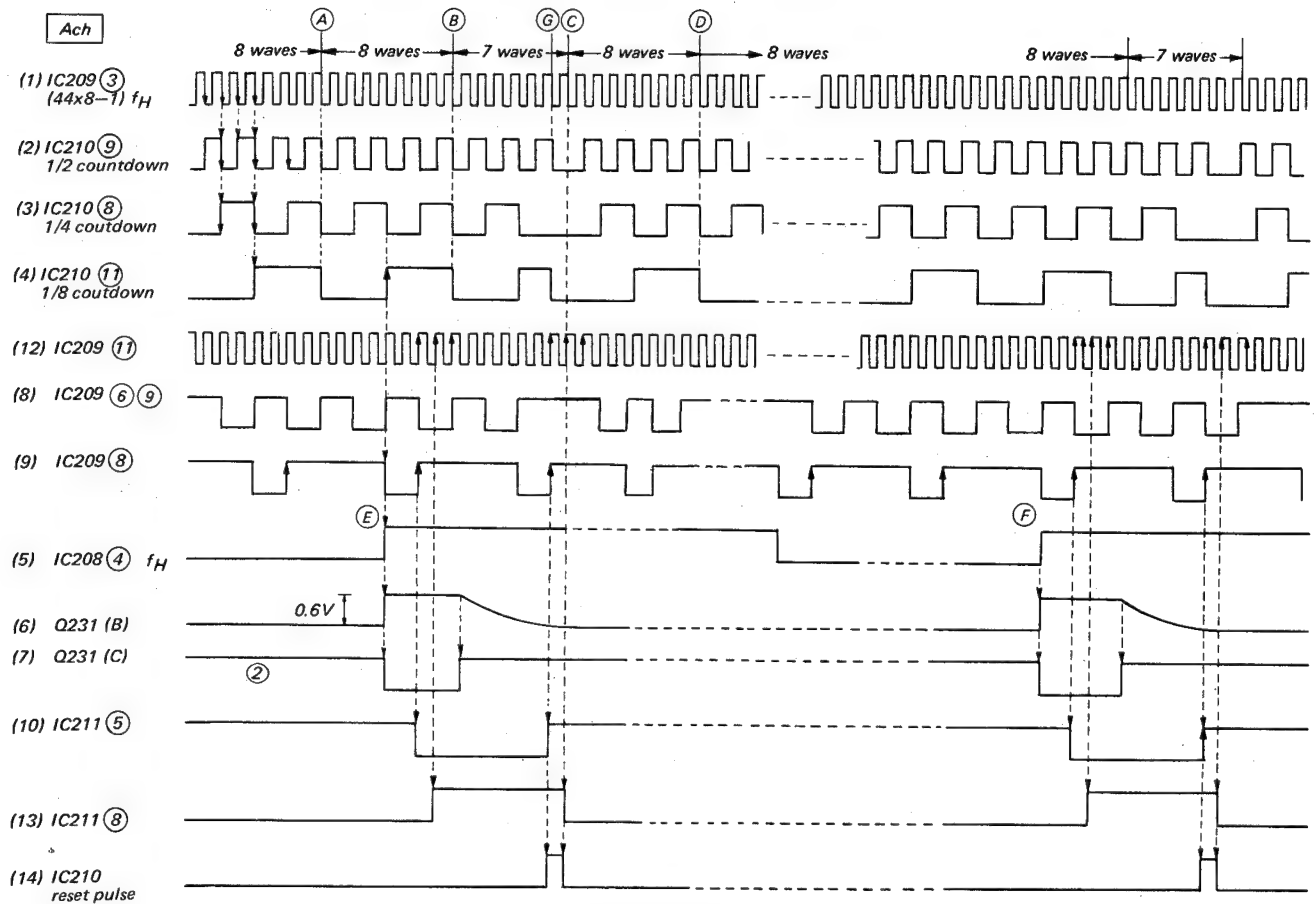

Fig. 3-33
from pin 11 of IC210 is counted down to $1/44$ in the CX145. When the $1/44$ counted-down pulse rises at Point E in Fig. 3-33, the wave form at pin 4 of IC208 becomes as shown in (5) and differentiated in the C313, R296 circuit. The differentiated wave from at the Q231 base is shown in (6) and the wave form at Q231 collector in (7). This signal acts as the data input to IC211, SN74LS74N. Since the RF switching pulse is 0 V in the A channel, the Q235 collector is 5 V and NAND gate 1 operates with the inputs from pin 5. In this case the gate 1 works as INVERTER for (3) the $1/4$ counted-down output from pin 8 of IC210. The output of the NAND gate (8) appears at pin 6 of IC209. Similarly NAND gate 2 of IC211 is the NAND gate for (8) and (4) wave forms in the time chart. Its output (9) appears at pin 8 of IC209 and supplied to flip-flop 1 of IC211 as the clock signal. Since the data input is Q236 collector wave form (7), the flip-flop output appears at pin 5 of IC211 in the